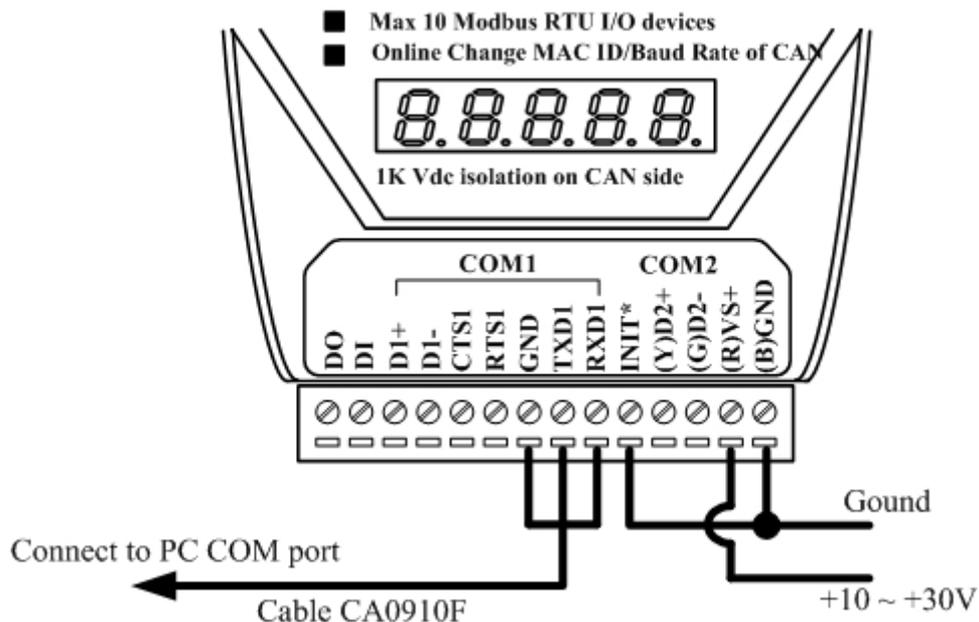

Figure 6-15. Wire Connection of the I-7242D
Step 1: Before you use this software, turn off the I-7242D. Connect the INIT* pin with the GND pin of the I-7242D as figure 6-15.